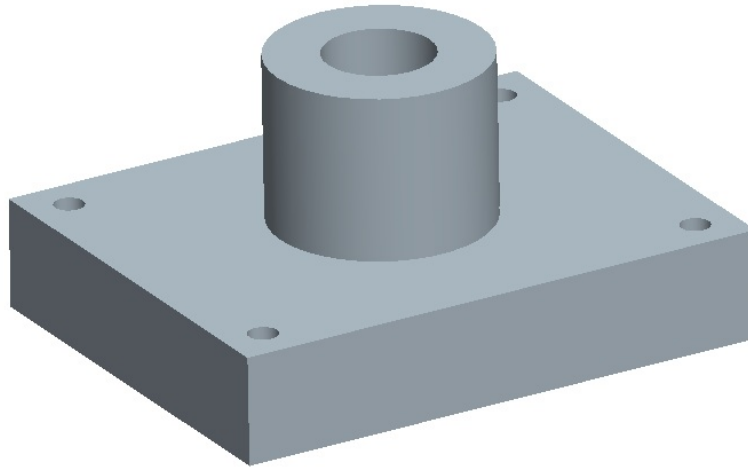

Figure 3: The precise dimensions of this component are given below:
5.	IntelliCAD Drawing of Figure 3 with a title block (total surface area and volume should be handwritten on the page with 7 sig figs)